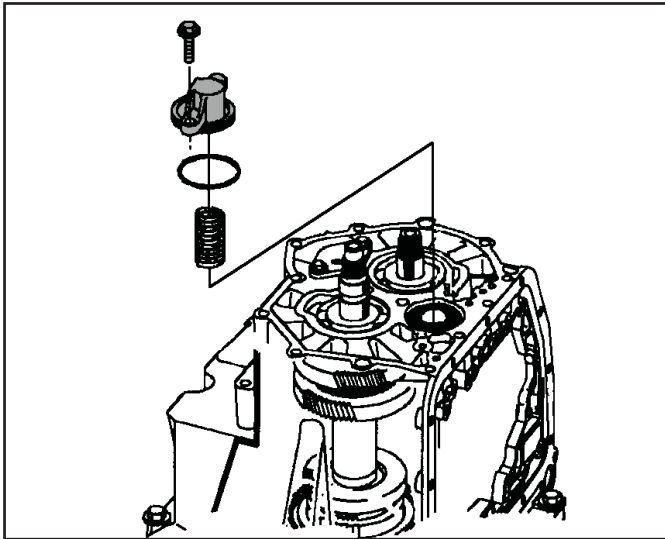

Figure 203
26. Install the servo spring on top of the servo piston (See Figure 203).
27. Install a new O ring onto the servo cover (See Figure 203).
28. Install the cover. Be careful not to cut the O ring in the servo bore (See Figure 203).